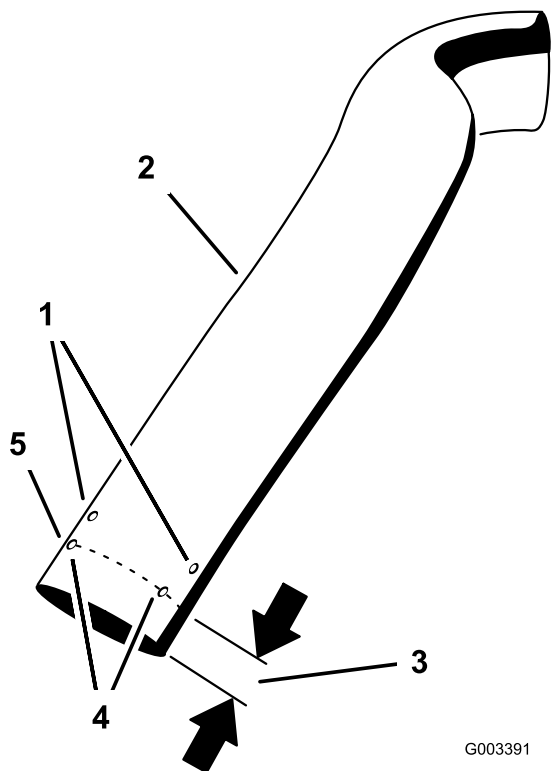

Figure 19
1. Measure up 3-1/2 inches (89 mm) from the bottom of the upper tube. Use the existing 3 holes as marks and then mark it in several places to create a line around the tube (Figure 19).
2. Cut the 3-1/2 inches (89 mm) off the upper tube (Figure 19).